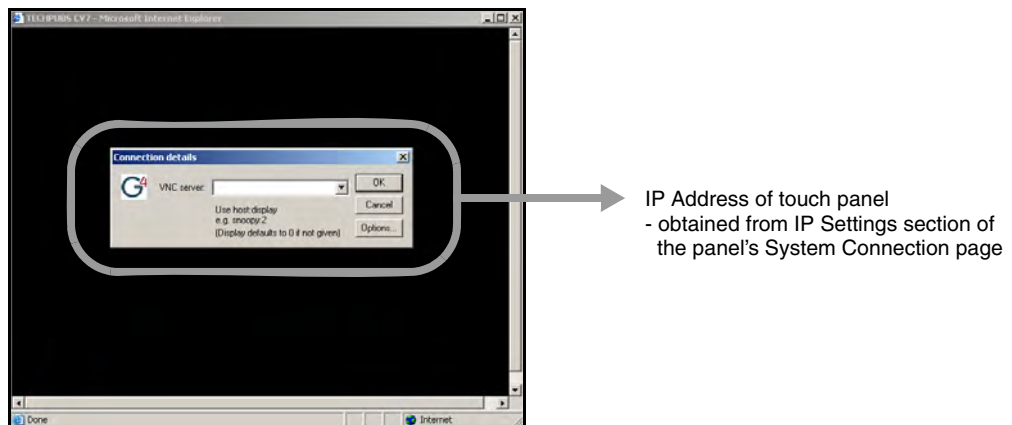

FIG. 91 Connection Details dialog
10. In some cases, you might get a Connection Details dialog (FIG. 91) requesting a VNC Server IP Address. This is the IP Address not the IP of the Master but of the target touch panel. Depending on which method of communication you are using, it can be found in either the: